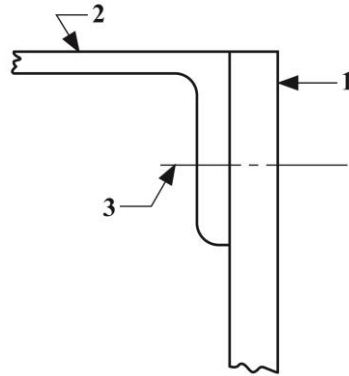

Figure 2
2. Figure 2 illustrates a simplified method of the sketch of the elevation of a bracket bolted to a frame. The bracket is to be secured using an M12 bolt. Copy the given view inserting the bolt to secure the bracket to the frame. Show ALL constructions for the bolt.